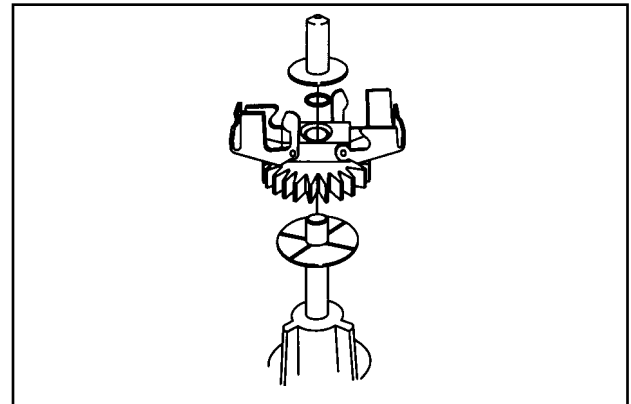

Fig. 12 - Check Governor Gear And Shaft
- 1. Check governor gear for burrs or nicks, Fig. 12.